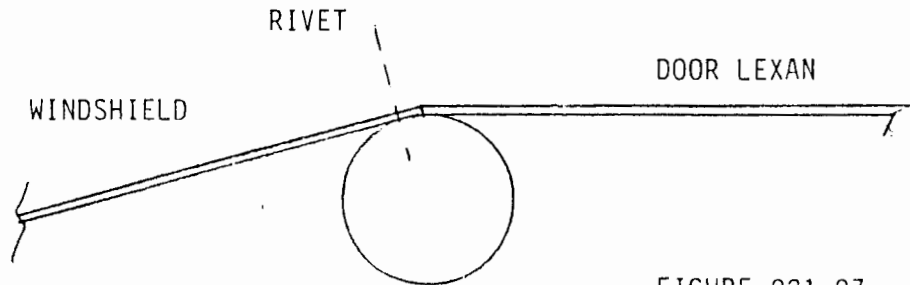

FIGURE 021-07
7. Mark with masking tape or a razor knife the trim line on the aft edge of the windshield at the S-2. Trim it back so the Lexan sets on the S-2 tube as in Figure 021-07. NOTE: Trim so the door will fit flush, also so the door Lexan will rest on the S-2 tube. The door will be re-installed to be trimmed in the next step.